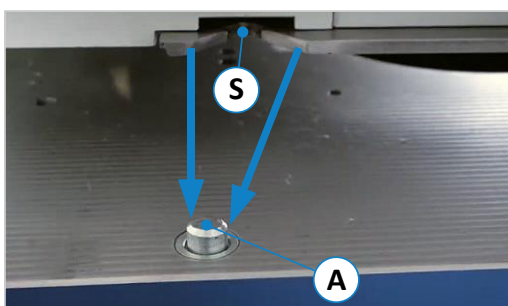

Figure 26: Align dovetail receptacle to locking pin
- Now stand on the back of the machine and pull the fence with the dovetail receptacle (S) as close as possible against the locking pin (A).
- Now set the fence down and move the rest by hand so that the locking bolt (A) engages securely in the receptacle (S) as shown in ⇒ Figure 26.